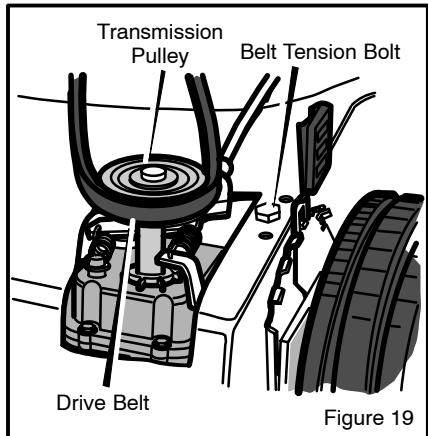

Figure 19
3. Loosen the **belt tension bolt** (Figure 19).